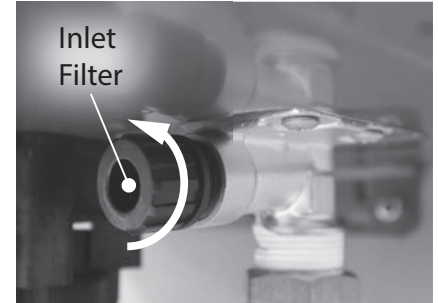

Figure 208 - Removing the inlet filter
- 8** Locate and remove the inlet filter as shown in Figure 208 to drain any residual water left in the system. Place a bucket or pan underneath inlet filter to collect water during removal.